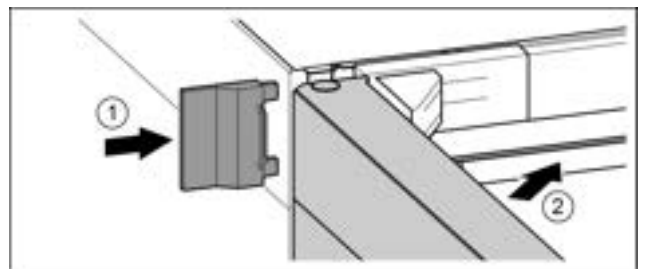

Fig. 23
- ▶ Slide on the external cover. Fig. 23 (1)
- ▶ Close the upper door. Fig. 23 (2)